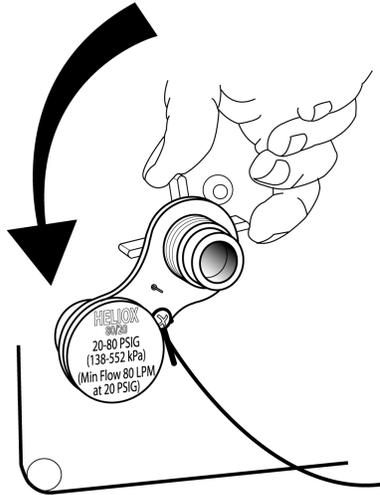

Figure 3.40
2. While still supporting the air connector, loosen the collar of the tethered Heliox Connector and detach it from its storage bracket. (Figure 3.40)